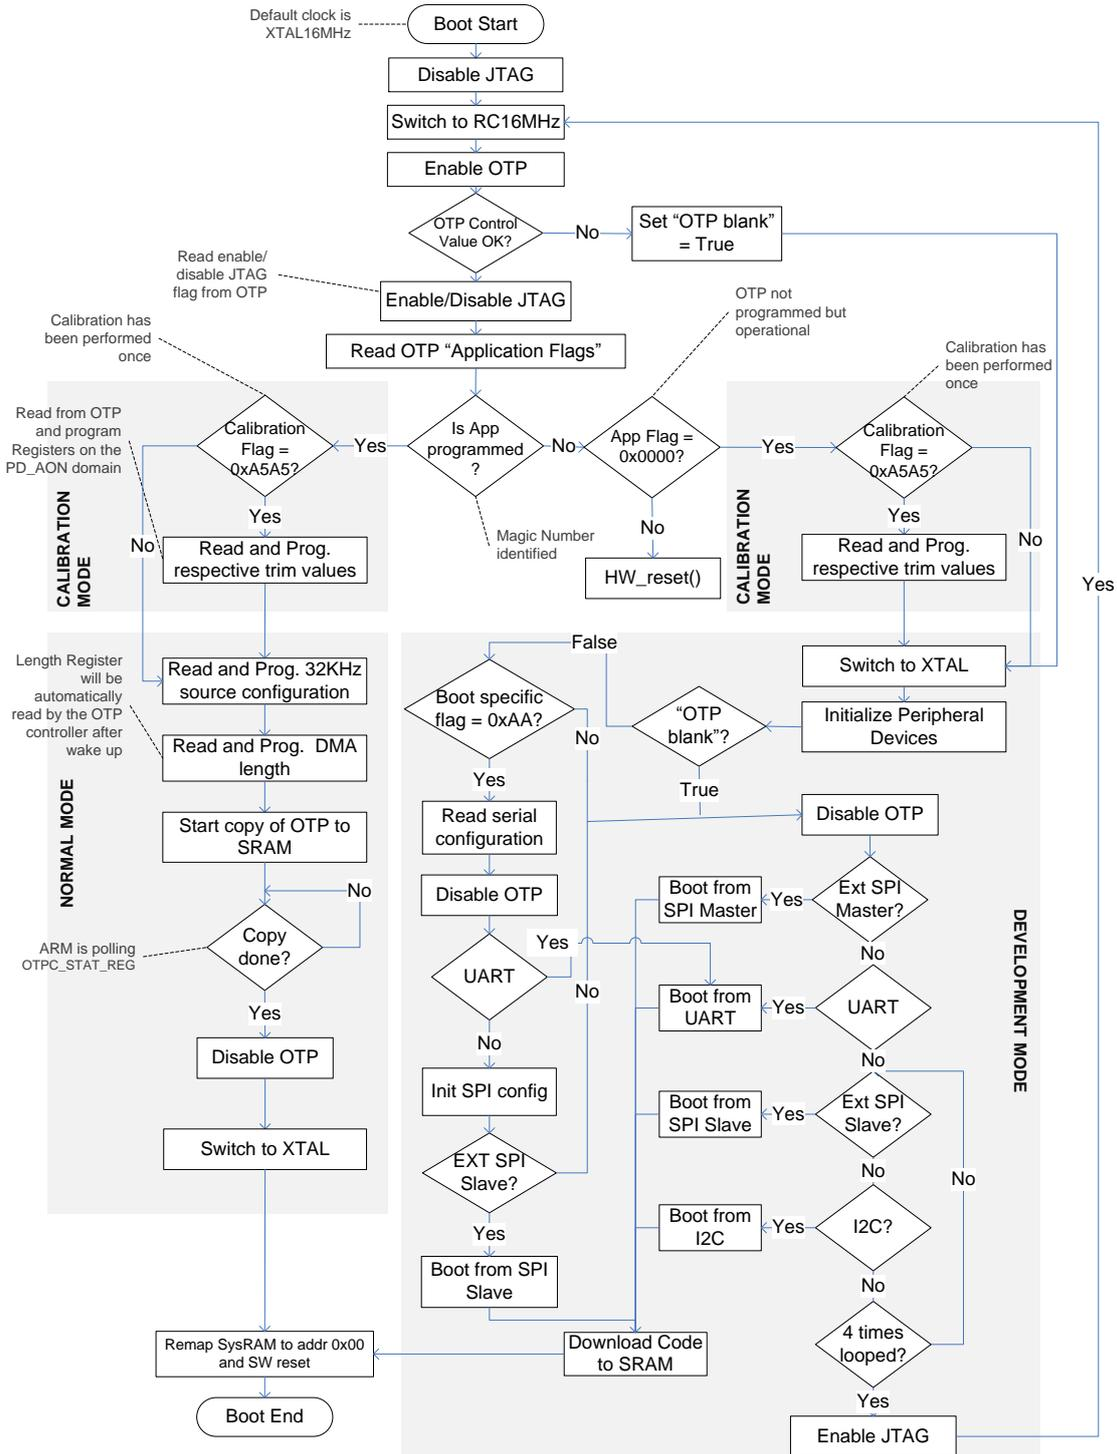

Figure 9: BootROM Sequence
The booting process of the DA14586 is presented in Figure 9.
**Note 3** This step is performed in a 4 times' loop (see Figure 9). SCK in 1st iteration is 8MHz, in 2nd 4MHz, in 3rd 2MHz and in 4th 1MHz.